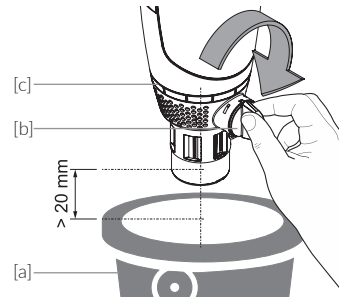

Fig. 8.1
According to DIN EN 1717, there must be a minimum distance of 20 mm from the upper edge of the collecting vessel [a] to the lower edge of the drain funnel (Fig. 8.1).
- / Turn the backwash handle [b] in the direction of the arrow by 90° (Fig. 8.1) and start the backwash process.
- / to relieve the pressure, turn the backwash handle [b] 90° in the direction of the arrow as described in chapter 8 Backwashing, Fig. 8.1